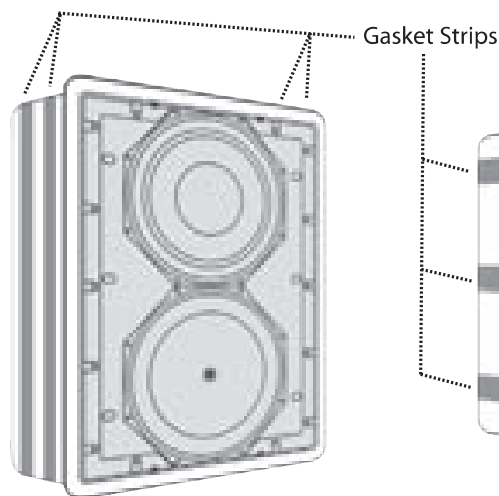
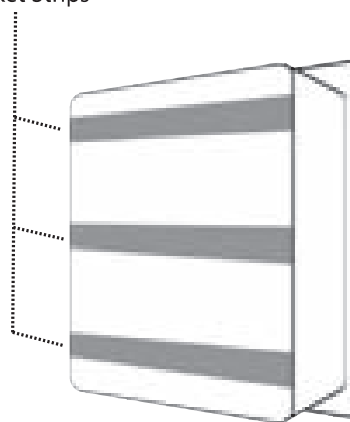

Figure 3
Figure 4
5. Before installing the speaker in the hole, apply the four long strips of gasket material to the speaker: two pieces on each side of the speaker that will come into contact with the studs. [*Figure 3*] Use the three shorter strips of gasket material to pad the rear of the speaker against the back of the exposed wall. [*Figure 4*]